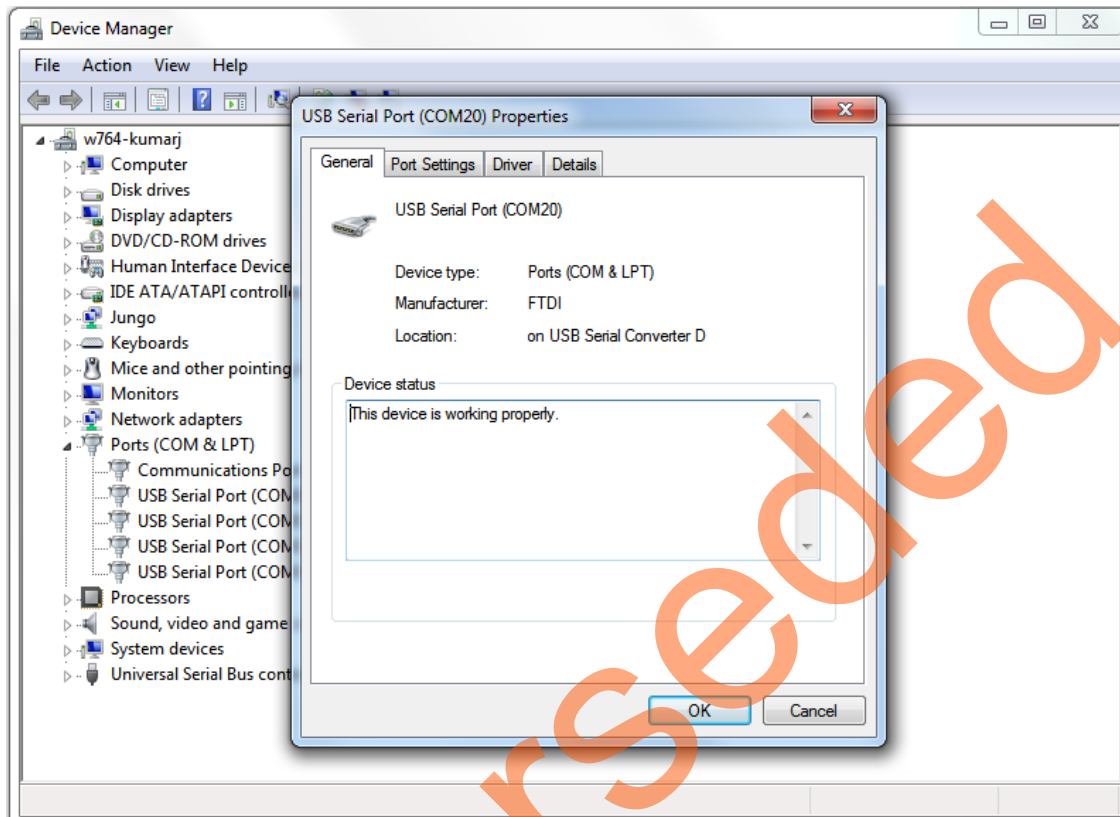

Figure 11 • USB to UART Bridge Drivers for SmartFusion2 Evaluation Kit
4. Ensure that the USB to UART bridge drivers are automatically detected. This can be verified in the **Device Manager** of the Host PC. Figure 11 shows the USB Serial port.